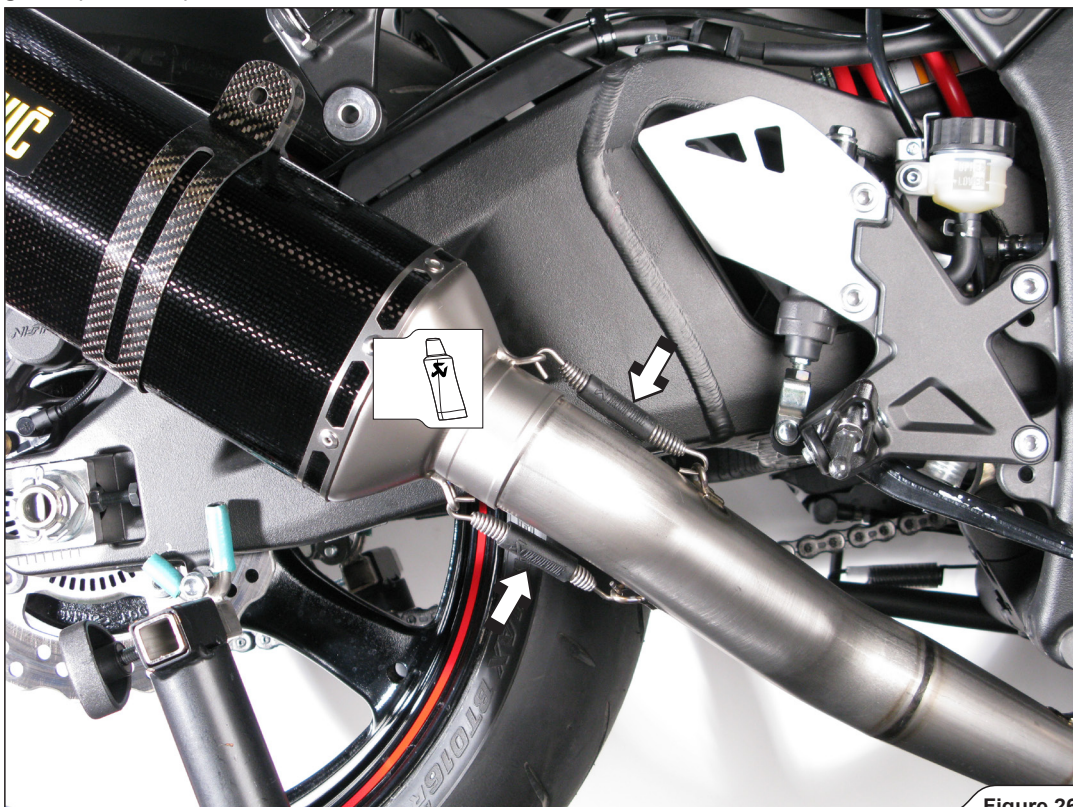

Figure 26
11. Position the muffler correctly and slide it onto the outlet side of the link pipe. Attach the springs (Figure 26).